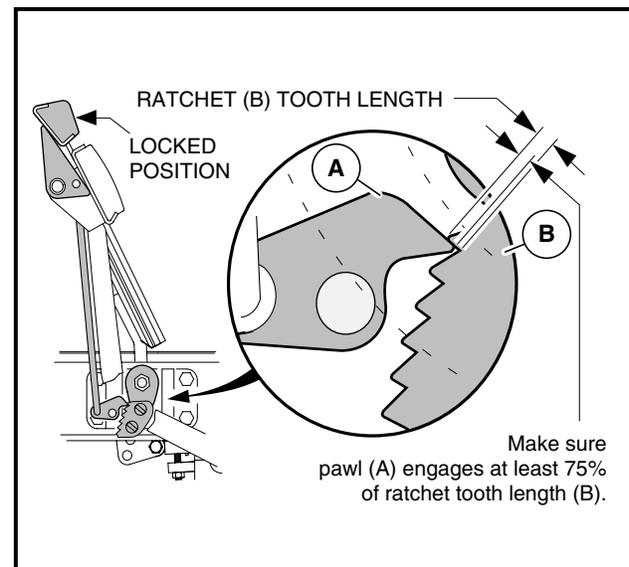

Figure 5-18 Ratchet/Pawl Tooth Engagement
- 4.4. With the park brake locked, make sure at least 75% of ratchet tooth length engages the pawl (**Figure 5-18, Page 5-14**). Tooth engagement should be between the two lines marked on the pawl.